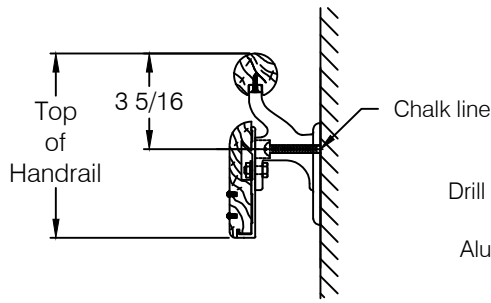

fig 1
- Step 1:** Determine top of handrail height and snap a chalk line 3 5/16" below for centerline of mounting hardware, see fig 1.